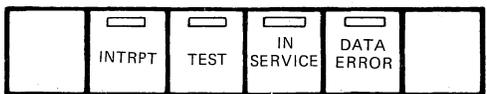

Fig. 17—40K001 and 40K004 ROP Opcons
3.09 40K001/40K004 ROP Opcons — These opcons are used with receive-only printer terminals. The basic operation consists of INTRPT and IN SERVICE. The terminal has provisions for two additional features: TEST and DATA ERROR. (See Fig. 17.)